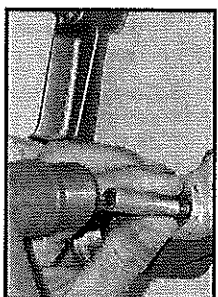

Fig. 31
3. Remove the pivot axle. If necessary, use an 8mm socket as a drift (Fig. 31) to finish driving the axle out of the frame.